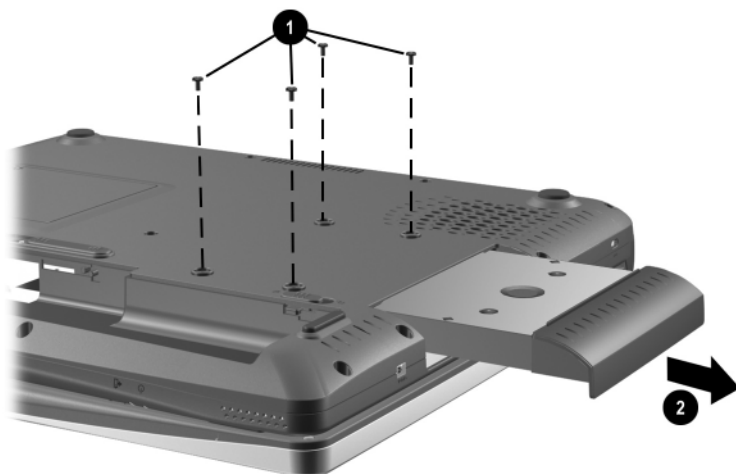

Figure 5-4. Removing the Hard Drive Assembly
- Remove the four TM2.5 × 7.0 screws ❶ that secure the hard drive assembly to the notebook (Figure 5-4).
- Slide the hard drive assembly forward ❷ and remove it from the hard drive bay.